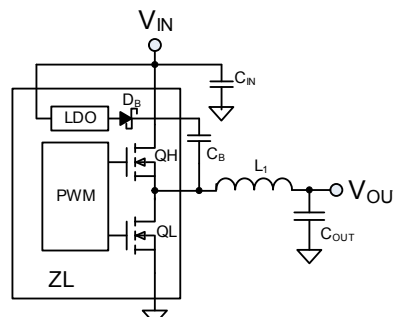

FIGURE 9. SYNCHRONOUS BUCK CONVERTER
Figure 9 illustrates the basic synchronous buck converter topology showing the primary power train components. This converter is also called a step-down converter, as the output voltage must always be lower than the input voltage.
The maximum conversion ratio is shown in Figure 9. Typically, buck converters specify a maximum duty cycle that effectively limits the maximum output voltage that can be realized for a given input voltage and switching frequency. This duty cycle limit ensures that the low-side MOSFET is allowed to turn on for a minimum amount of time during each switching cycle, which enables the bootstrap capacitor to be charged up and provide adequate gate drive voltage for the high-side MOSFET.
The gate drive voltage for the high-side MOSFET driver is generated by a floating bootstrap capacitor, C_B (see Figure 9). When the lower MOSFET (QL) is turned on, the SW node is pulled to ground and the capacitor is charged from the internal VR bias regulator through diode D_B. When QL turns off and the upper MOSFET (QH) turns on, the SW node is pulled up to VDDP and the voltage on the bootstrap capacitor is boosted approximately 6.5V above VDDP to provide the necessary voltage to power the high-side driver. An internal Schottky diode is used with C_B to help maximize the high-side drive supply voltage.